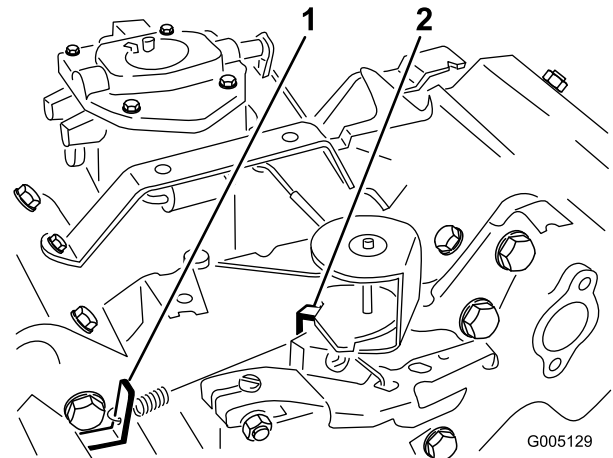

Figure 47
3. Bend the governed idle spring anchor tang (Figure 47) to attain an idle speed of  $1650 \pm 100$  RPM. Check the speed with a tachometer.
5. Move the throttle control to the Fast position. Bend the high speed spring anchor tang (Figure 47) to attain a high speed of  $2850 \pm 50$  RPM.